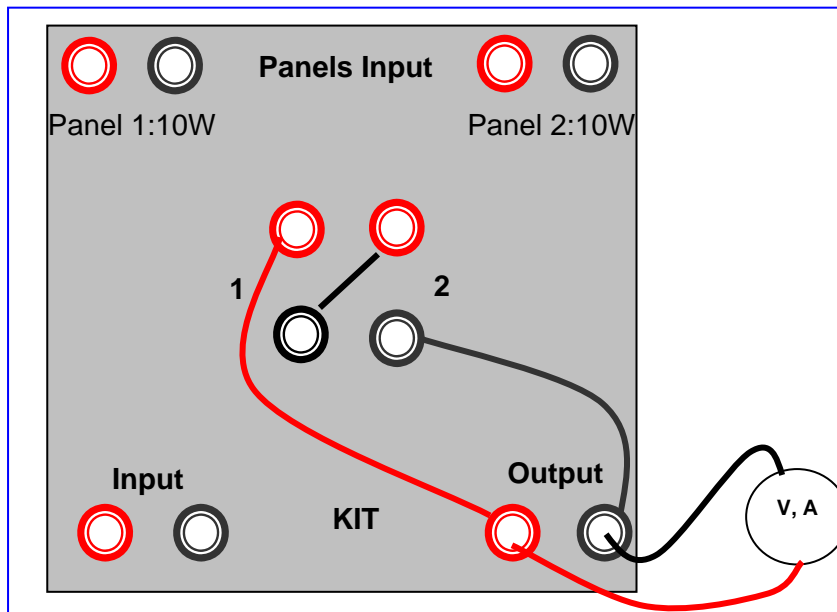

Figure 2.2 Modules in series
- Connected in series (Figure 2.2)